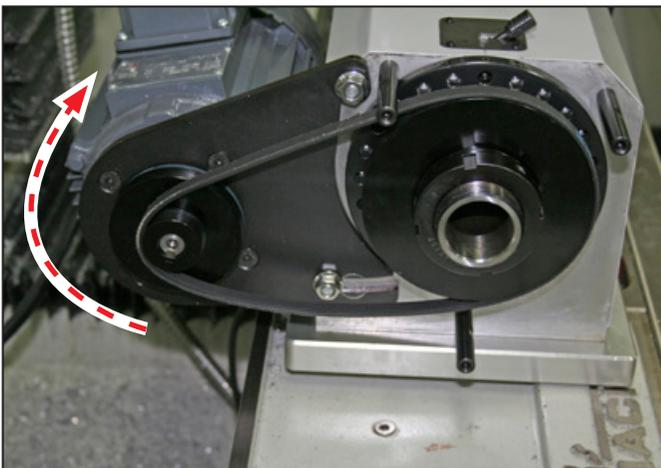
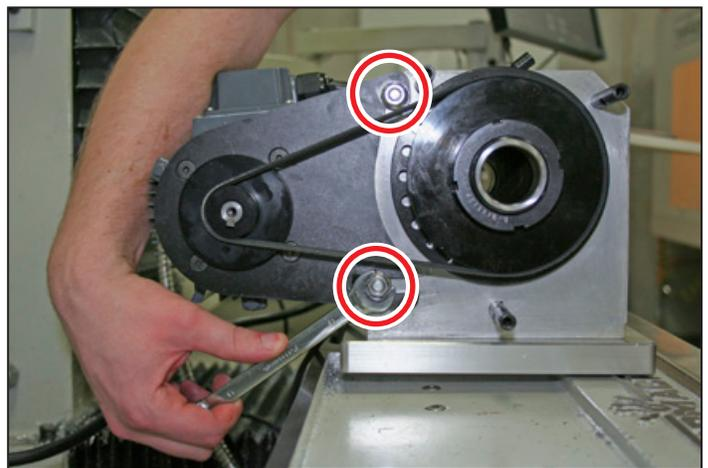

Figure 2.15
Figure 2.16
2. Reinstall spindle belt to bottom pair of pulleys (low speed range); tension spindle belt by lifting motor upward (see **Figure 2.15**) while tightening down two M8 flange nuts (see **Figure 2.15** and **Figure 2.16**).